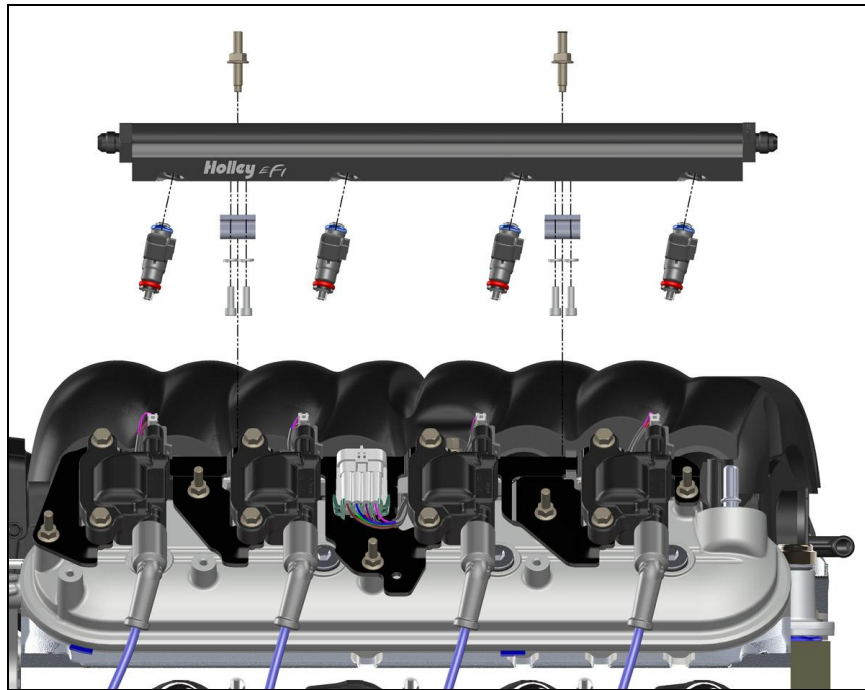

Figure 5
15. Install each of the fuel rail/injector assemblies onto the intake manifold. Make certain each of the O-rings is seated at both ends and that none of the O-rings were cut (Figure 5).